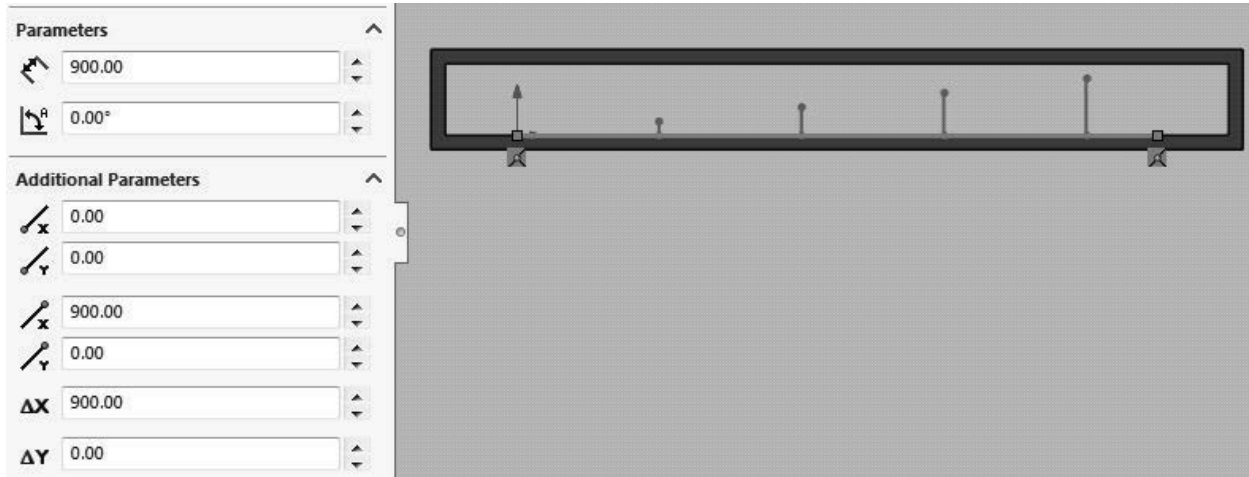

Figure 2.9 Sketching a line in the X-direction
9. Click on the **Rebuild** symbol  in the SOLIDWORKS menu. Repeat step 6 and draw a horizontal line in the X-direction starting at the origin of the lower inner surface of the sketch. Set the **Parameters** and **Additional Parameters** to the values shown in figure 2.9 and close the **Line Properties** dialog and the **Insert Line** dialog. Rename the sketch in the **FeatureManager design tree** and call it **x = 0 – 0.9 m**. Click on the **Rebuild** symbol.